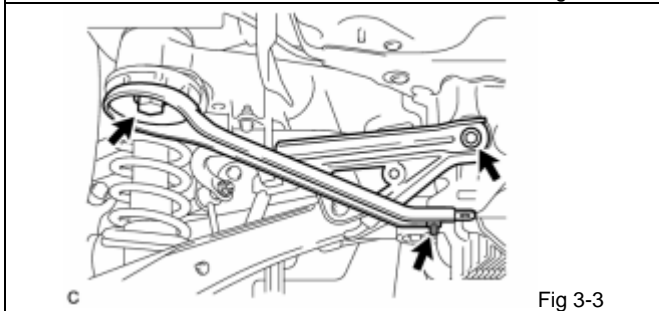

Fig 3-3
(2) Remove the 2 bolts, nut and rear lower suspension member stopper reinforce LH. (Fig 3-3)